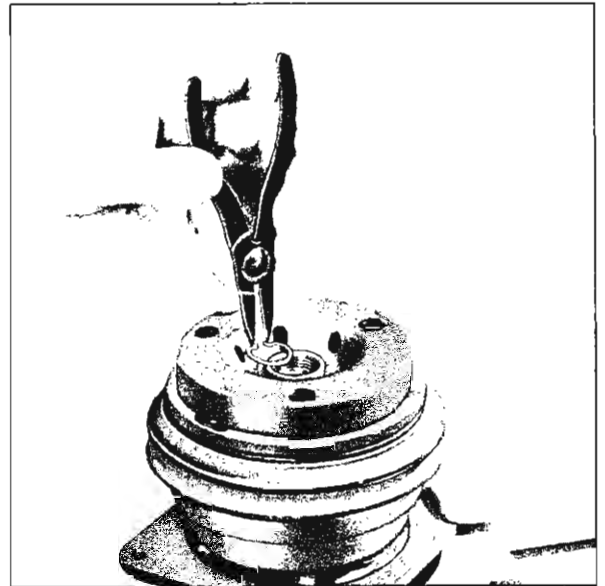

Fig. 19—Removing Pulley and Bearing Assembly Retainer Ring
2. Using snap ring pliers J-6435, remove the pulley and bearing retainer ring (fig. 19).